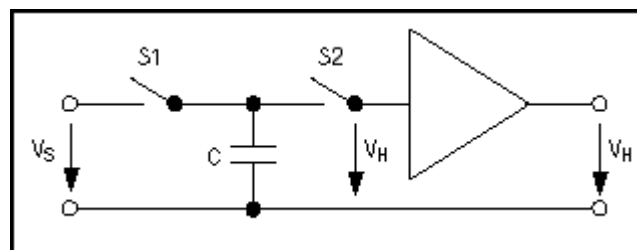

Figure 5. A typical track/hold function requires precise control of the analog switches.
A track/hold amplifier, which maintains a constant analog output during conversion by an A/D converter, offers a good example of this (**Figure 5**). Closing S1 charges the small buffer capacitor (C) to the input voltage (V_S). The value of C is only a few picofarads, and V_S remains stored on C when S1 opens. The held voltage (V_H) is applied to the buffer by closing S2 at the beginning of a conversion. The high-impedance buffer then maintains V_H constant over the ADC's conversion time. For short acquisition times, the track/hold's capacitor must be small and S1's on-resistance must be low. On the other hand, charge injection can cause V_H to change by $\pm\Delta V_{OUT}$ (a few millivolts), thereby affecting the accuracy of the following ADC.